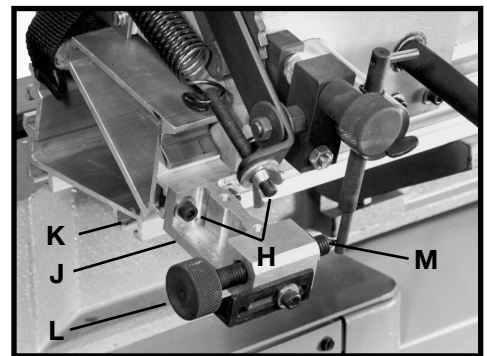

Fig. 50
6. Loosen two screws (H) Fig. 50, and slide bracket (J) to the left until it is flush with the left edge of rail (K). Tighten two screws (H).
7. Turn knob (L) Fig. 50 counterclockwise to move point of screw (M) to the left, out of the way.